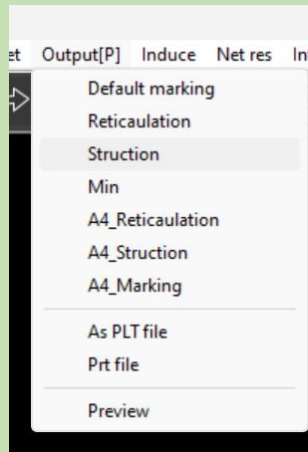

Figure 2-5
6.Output: Printing on A4 paper. The material layout diagram and preview diagram are all included (Figure 2-5).